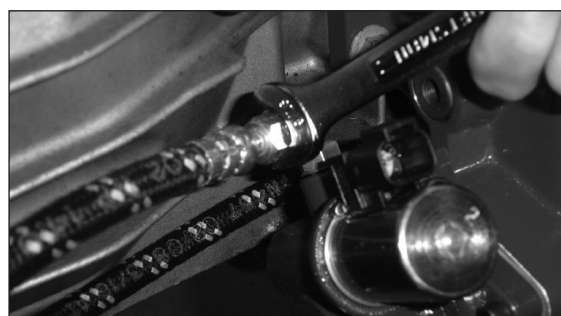

Figure 80
16. Install Transmission-to-Solenoid hose to the Hydraulic Valve Bearing Cap 90-degree Elbow fitting (**Fig. 80**).